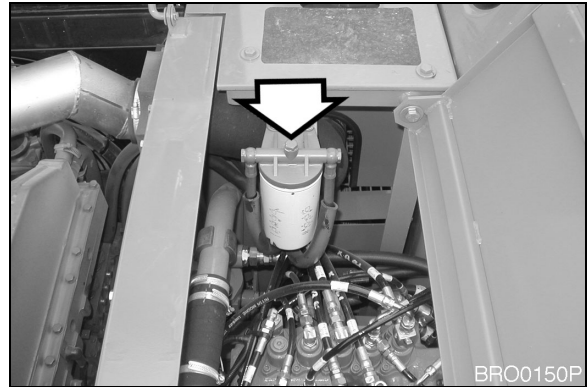

Figure 64
1. Loosen plug (Figure 64) on top of fuel filter head.